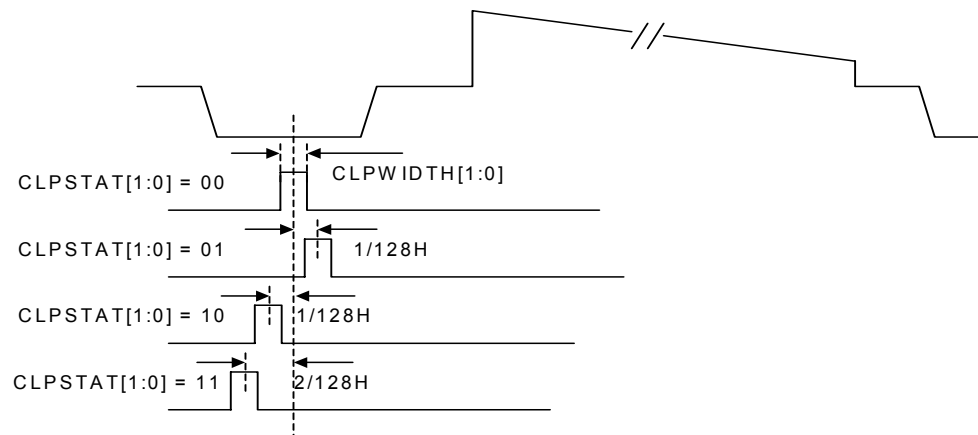

Fig.5 Clamp timing pulse
This sets the clamp position of input signal. The clamp timing pulse position is internally generated by the AK8851. Clamp timing pulse is generated at the center position of SYNC signal. Its pulse position is adjustable (refer to Fig.5).
*Pulse Width is set by [CLPWIDTH1:CLPWIDTH0]-bit (refer to Fig.5)